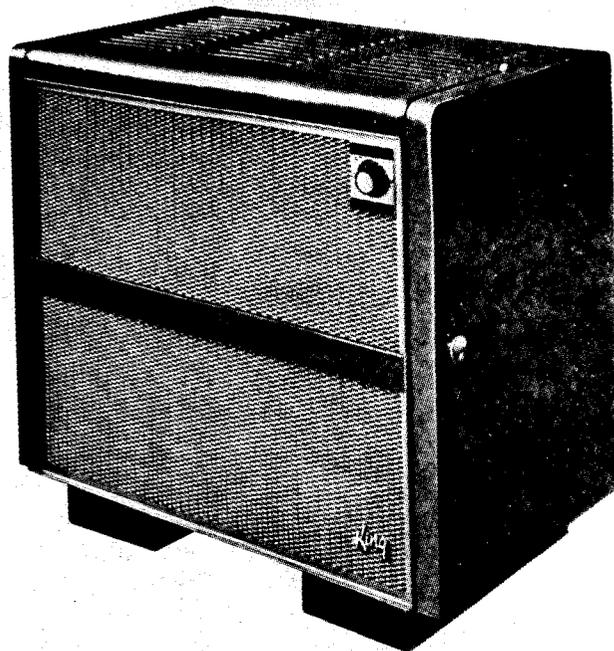

Fig. 26. King Model 7801-B automatic circulating heater.
7. **King Stove & Range Co.** (manufacturer), Box 730, Sheffield, AL 35660. The King's loading and ash doors are lined with asbestos gaskets for an airtight seal. Blower and "draft equalizer" optional. See Fig. 26 and Table 3.